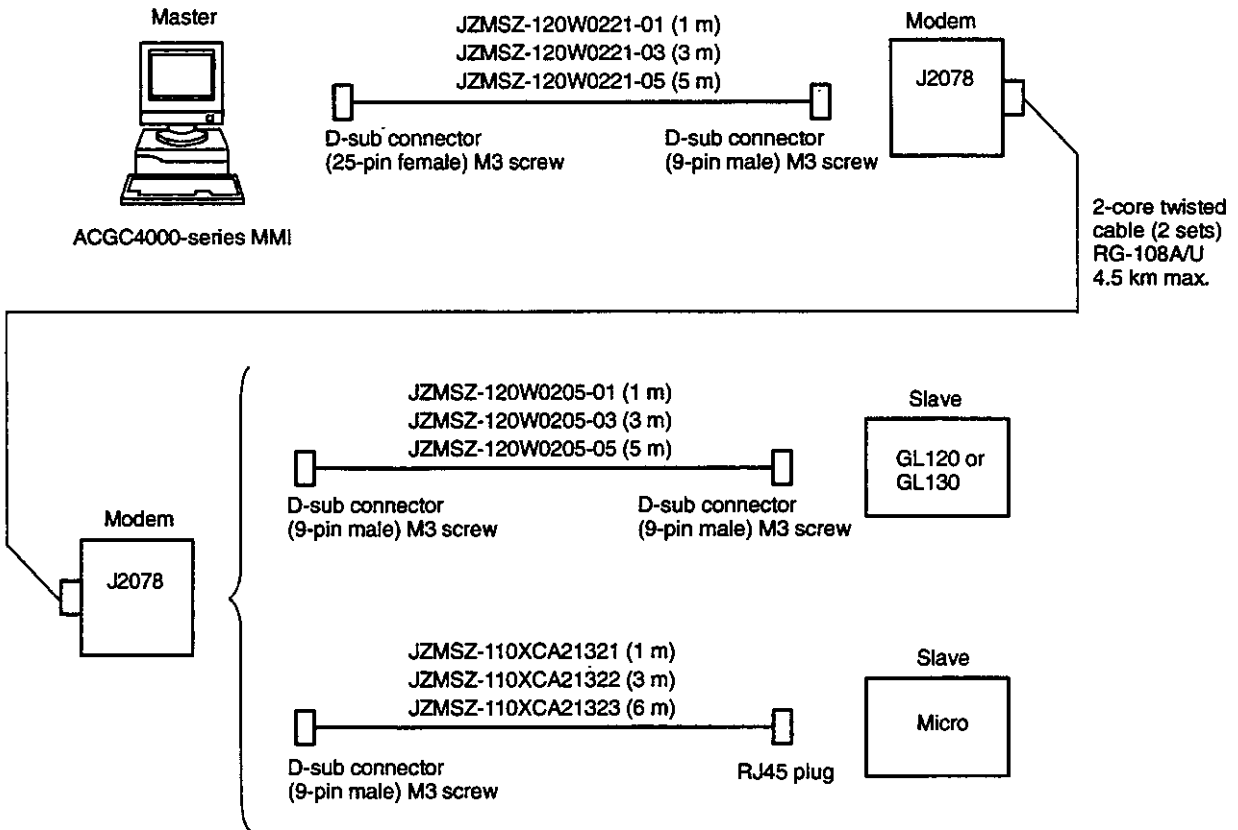

Figure 4.8 MMI Master 1:1 Configuration Connected by Modems
- 1) Figure 4.8 shows MMI master configurations where a master and slave are connected by modem. Alternate slaves are shown, but only one slave is actually connected in this type of configuration.